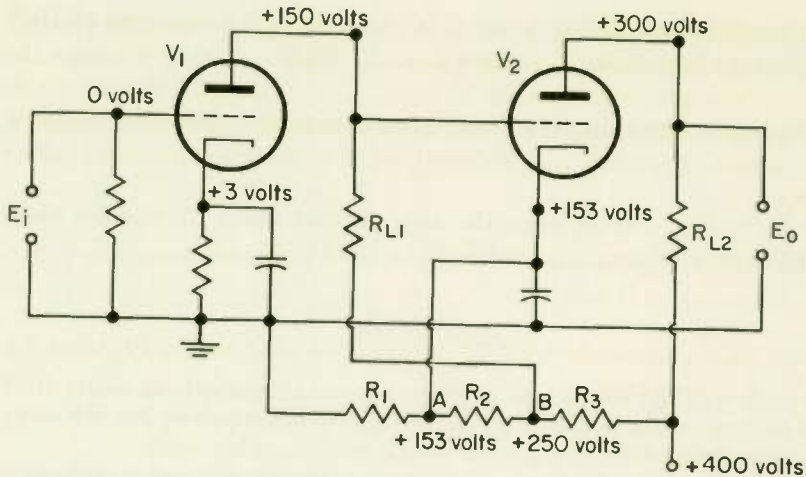

Fig. 7 A direct-coupled amplifier.
One circuit that is designed particularly for amplification of low-frequency or d-c signals is the *direct-coupled* amplifier of Fig. 7. It is often called the *Loftin-White circuit*, after its originators.
In Fig. 7 notice that neither transformers nor capacitors are used to keep the d-c component of the output signal from V_1 blocked off from the next grid. Consequently, the d-c grid potential of V_2 is identical to the d-c plate potential of V_1 , or + 150 volts. Notice also that the cathode of V_2 is at + 153 volts. Since the voltage on the grid is 3 volts
2. Referring to Fig. 7, (a) the grid bias on V_1 is _____ volts, and (b) the plate voltage applied to V_1 is _____ volts. (c) The plate potential for V_1 is less than the supply voltage of 250 volts because of the drop across _____.